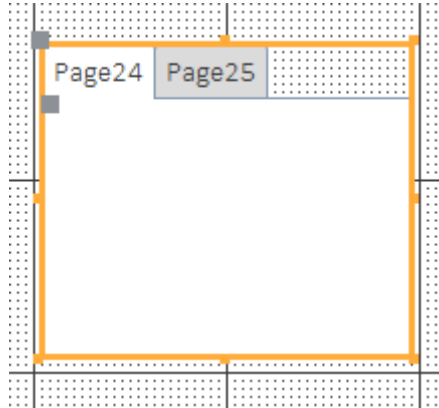

Figure 38: New Tab Control Created on the *Vehicle* Form
1. Create a Tab Control: Select the **Tab Control** tool  from the Controls group of the **Design** ribbon and drag it to the right of the *Vehicle* form fields (Figure 38). Disregard the page numbers on the tabs since you will be modifying them later.